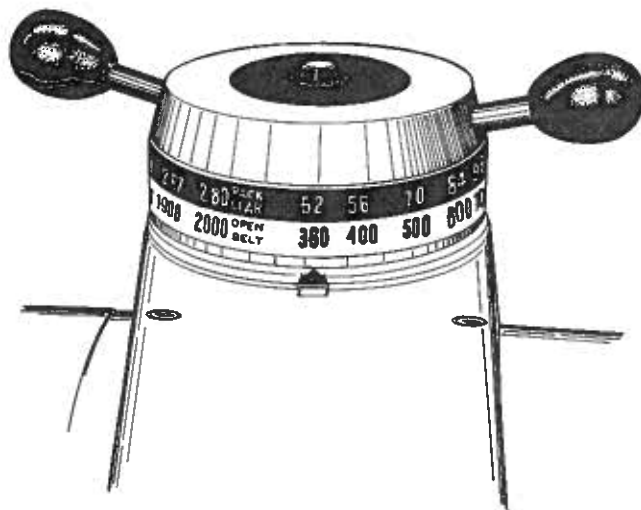

Figure 6
1. Start the motor -- turn variable speed control to 360 rpm (52 rpm if lathe is in back gear) -- refer to figure 6.